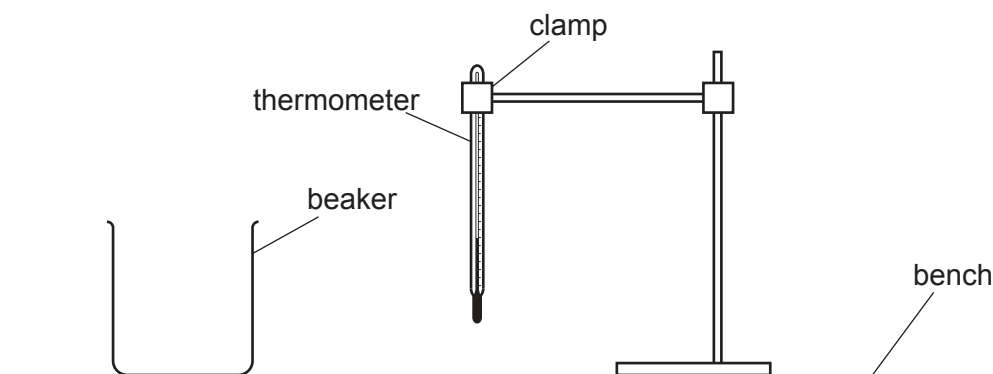

Fig. 2.1
1. The thermometer, clamp, boss and stand are to be set up for candidates as shown in Fig. 2.1. The thermometer bulb must be well below the  $50\text{ cm}^3$  level of the beaker. Candidates must be able easily and safely to read temperatures up to  $100^{\circ}\text{C}$  and to move the thermometer in and out of the beaker.
Check that the apparatus is intact and is arranged as in Fig. 2.1.